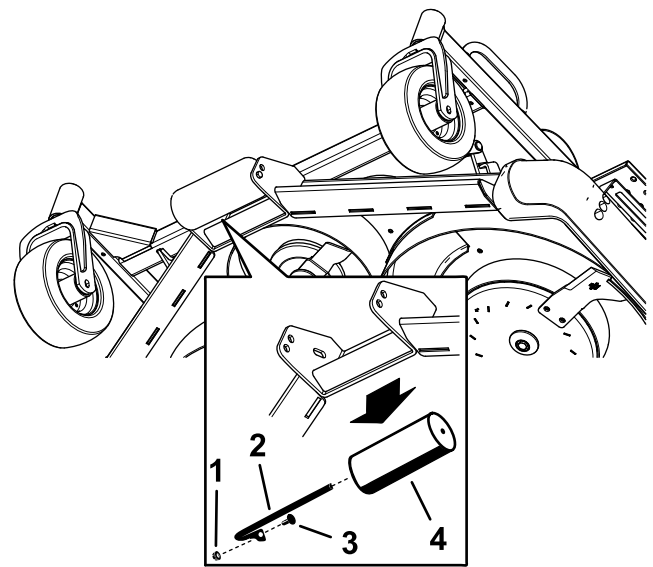

Figure 30
4. Remove the roller shaft, bolt, and nut securing the roller to the deck bracket (Figure 30).